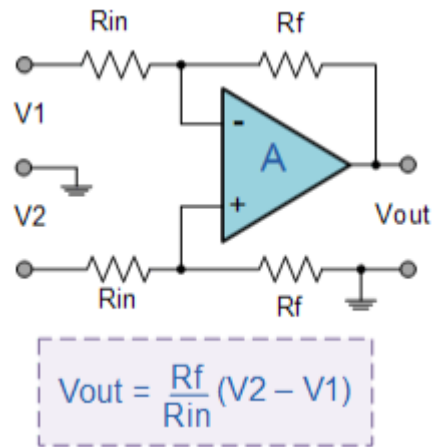

Fig. 5.2 : Circuit Diagram for subtractor using Op-amp.
1. Connect the circuit as shown in the Fig. 5.2.